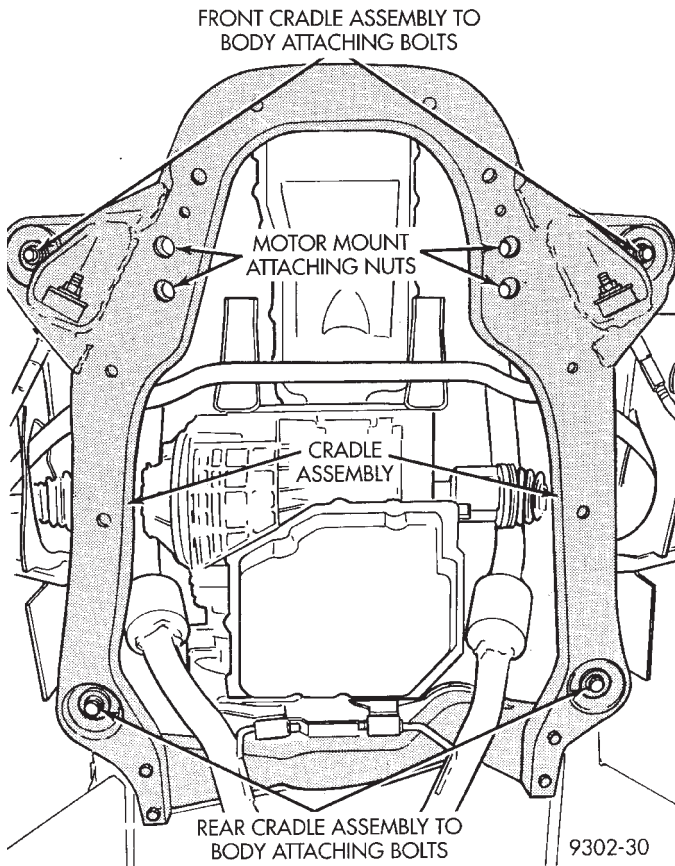

Fig. 17 Cradle Assembly To Body Attaching Locations
(10) Cradle assembly is now ready to be removed from vehicle using the following procedure. A helper will be required when removing cradle assembly from vehicle.
- Loosen but do not fully remove the 2 rear cradle assembly to body attaching bolts (Fig. 17).
- Loosen and remove the 2 front cradle assembly to body attaching bolts (Fig. 17).
- With a helper supporting rear of cradle assembly and the jack stand supporting transaxle. Remove the 2 rear cradle assembly to body attaching bolts (Fig. 17).